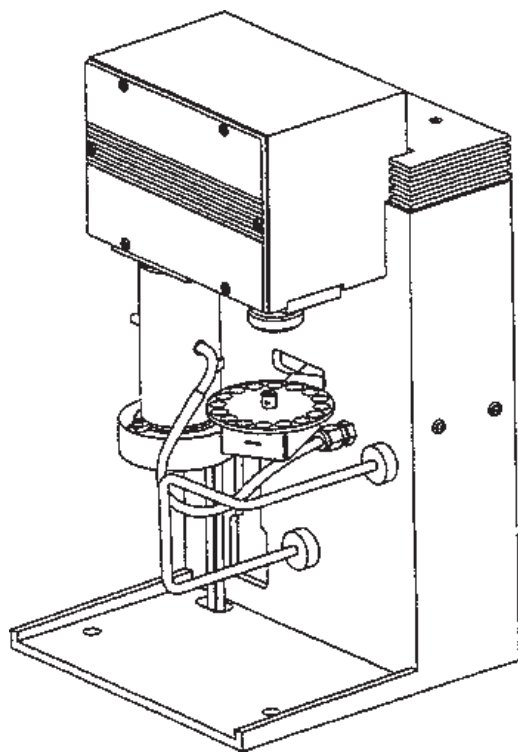

Figure C.1
The TGA Autosampler, known as the Auto TGA, is an accessory to the TA Instruments Thermogravimetric Analyzer (TGA) 2950 (see Figure C.1 on the next page). It allows you to place up to 16 samples at one time on the TGA instrument to measure the amount and rate of weight change in a material. Experiments are performed as they normally would be using the TGA—but now you can run samples on a continual basis and keep a log of the results using the Autosampler screens. The six (6) standard TGA pans listed below are used with the Auto TGA: